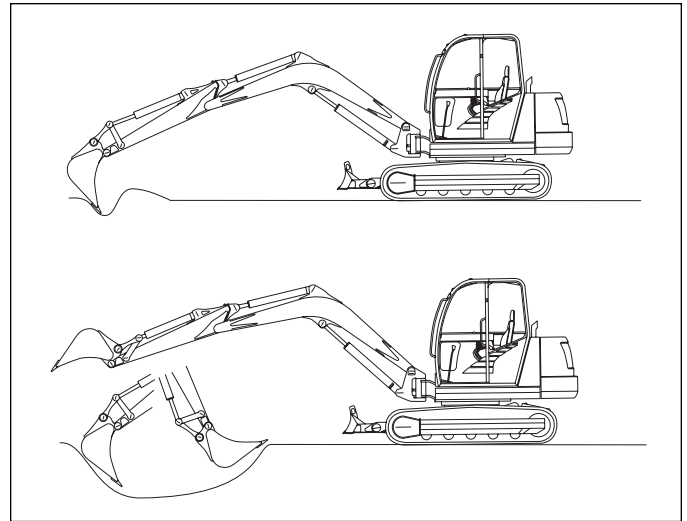

Figure 3-15. Proper Excavating
- To obtain maximum digging performance, avoid fully extending the excavator arm. Excavate using long, flat pulling movements of the arm (Figure 3-15).